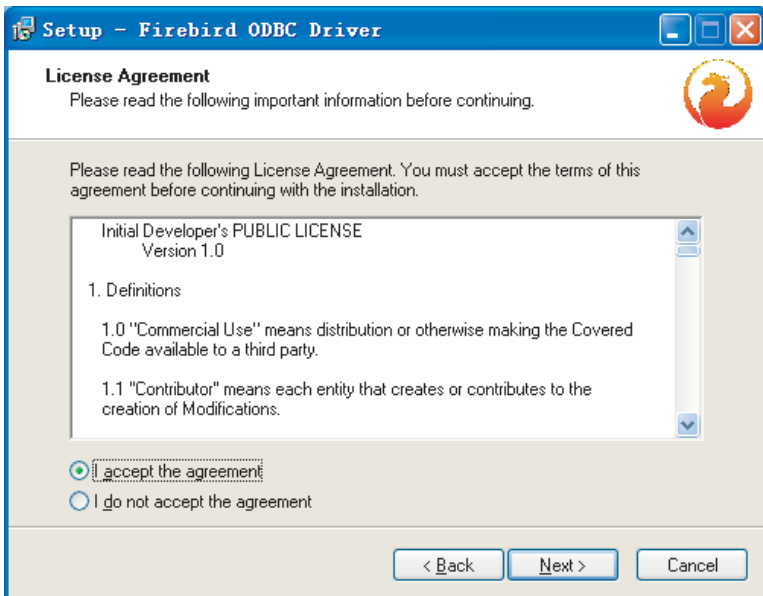

Fig. 2-15
2) Installation window as Fig.2-15, select "I accept the agreement", click "Next" to continue: